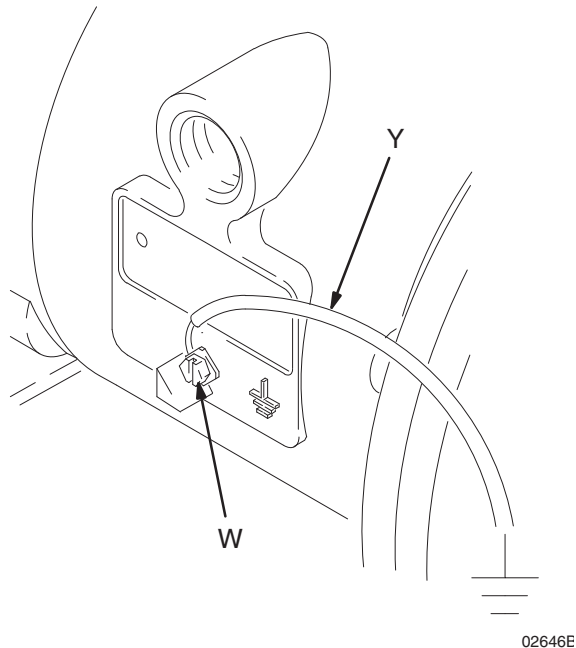

FIG. 1
- *Pump:* Connect a ground wire and clamp as shown in FIG. 1. Loosen the grounding screw (W). Insert one end of a 12 ga (1.5 mm²) minimum ground wire (Y) behind the grounding screw and tighten the screw securely. Connect the clamp end of the ground wire to